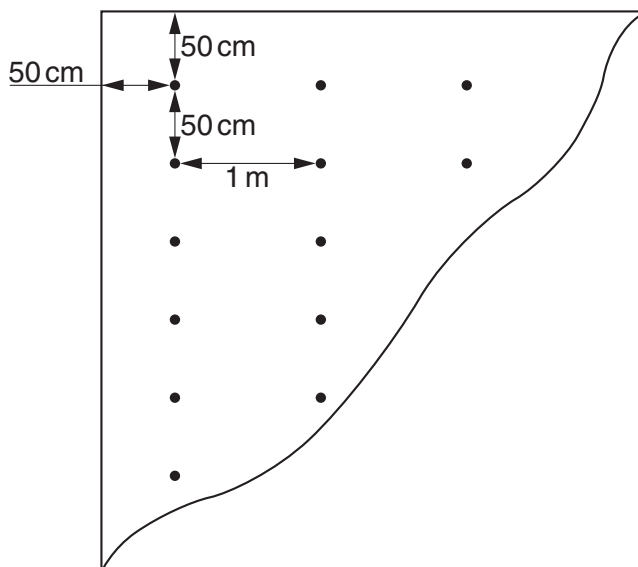

Fig. 2.3
- (c) When nettles are to be grown commercially it is important that the ground is used economically, but without producing nettles of inferior quality. Nettles were grown on an experimental plot of ground of area 1 hectare (100 m × 100 m). The plants were placed 1 m apart with 50 cm between rows. A distance of 50 cm was left at the end of each row, Fig. 2.3.